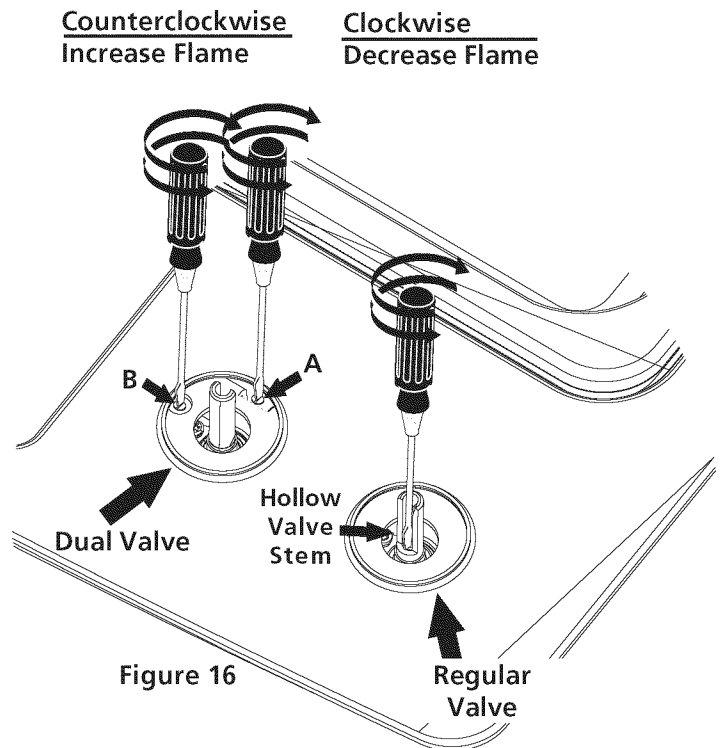

Figure 16
5. Adjust the "LOW" Setting of the Dual Burner Surface Valve (Figure 16)